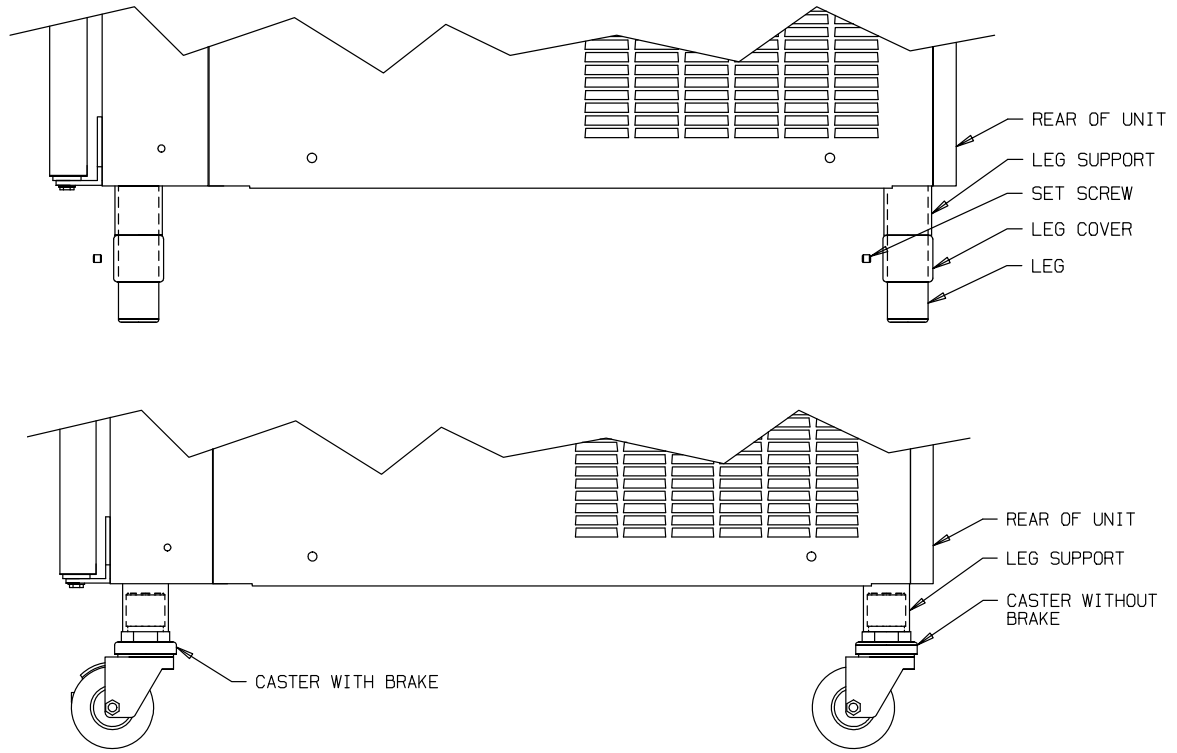

Figure 2 *Installing mounting legs or casters*
3. Screw each leg or caster into place at the four corners of the base (Figure 2). When the unit is in position at its intended location, the legs or casters must be adjusted until the unit is leveled. (See Section 5.1).